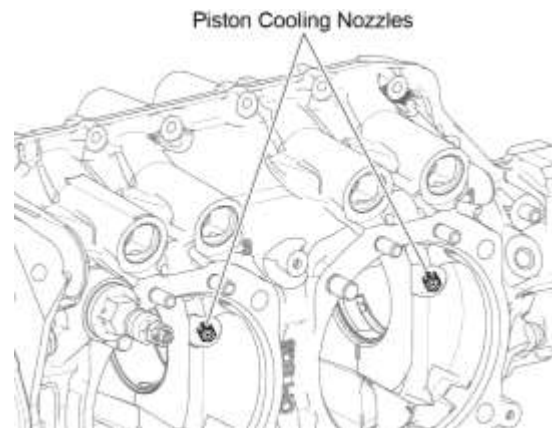

Figure 58
- (10) If the gage does not move freely between the ends and under the top of the circlip, the circlip seating is not correct. Install the circlip again and complete a check of the circlip seating again per the previous steps. The circlip must be seated correctly.
- B. Install two piston cooling nozzles in each crankcase half (Figure 58).